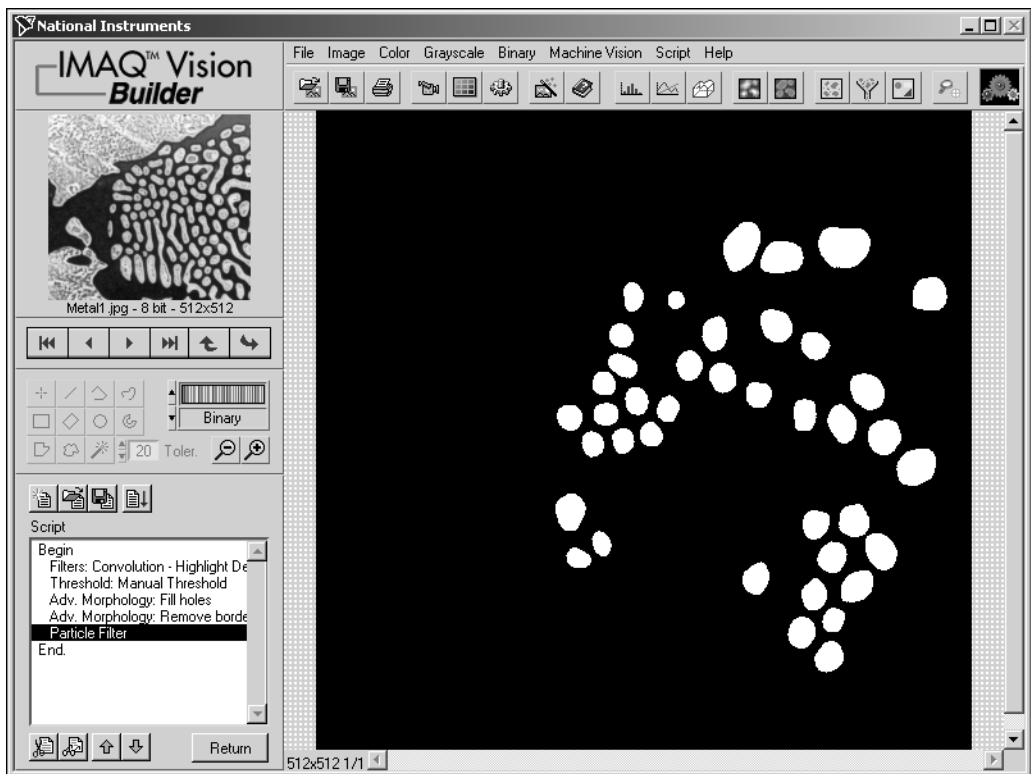

Figure 3-5. Isolating Circular Blobs
5. Click **OK** to add this step to the script. The image now contains only circular blobs, as shown in Figure 3-5.